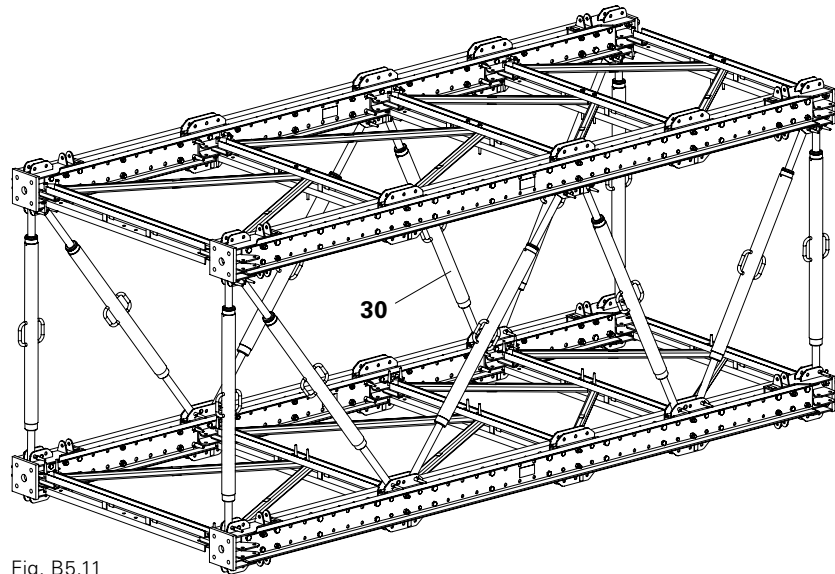

Fig. B5.11
1. Install the required number of Heavy-Duty Spindles SLS (30) using Fitting Pins \varnothing 21 mm (9). (Fig. B5.11)